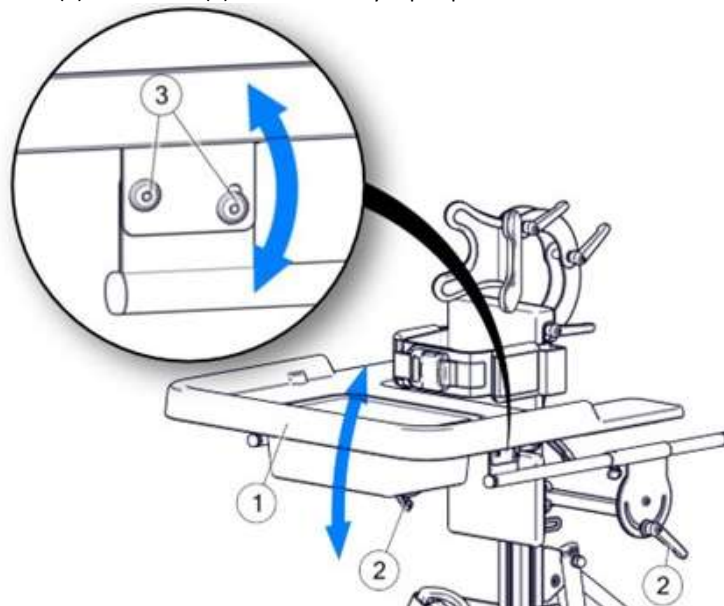

Fig. 21
Fig. 21 In both trays to adjust the tray tilt angle (1), loosen the screws (3) and the adjustment handles (2). Once the angle has been set, tighten the handles (2) and screws (3) to lock the tray top in position.